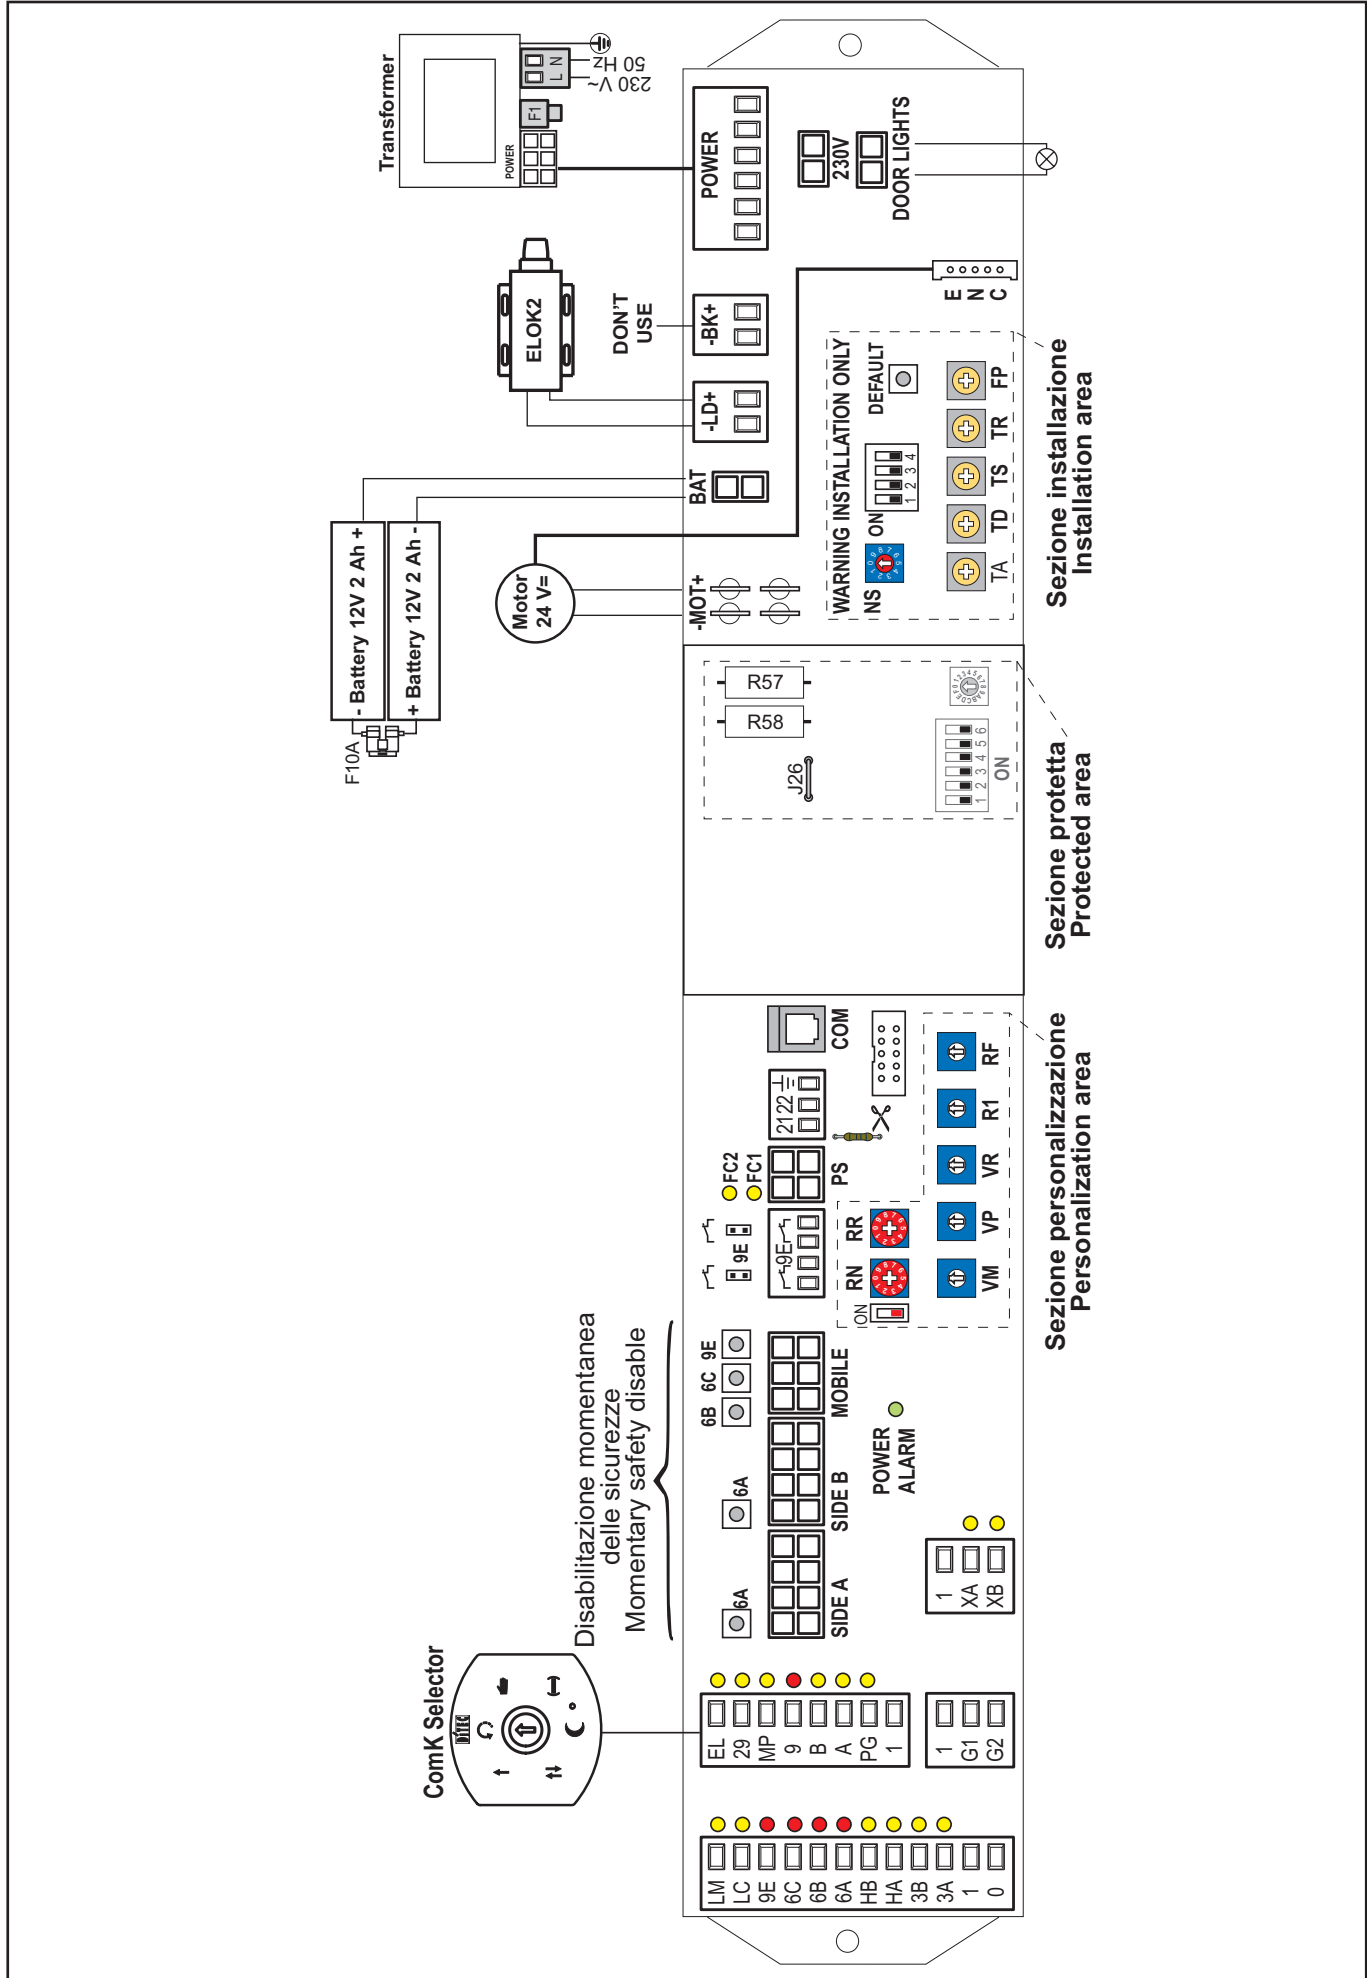

Fig. 5
- (Fig. 5) Secure the fixed wing support brace [23] in place with the screws provided.
- (Fig. 5) Fasten support [16] to the motor supports [14].
- 7.8 In the event of a LOW ENERGY push-button being installed, secure support as shown in Figures 5 and 6.